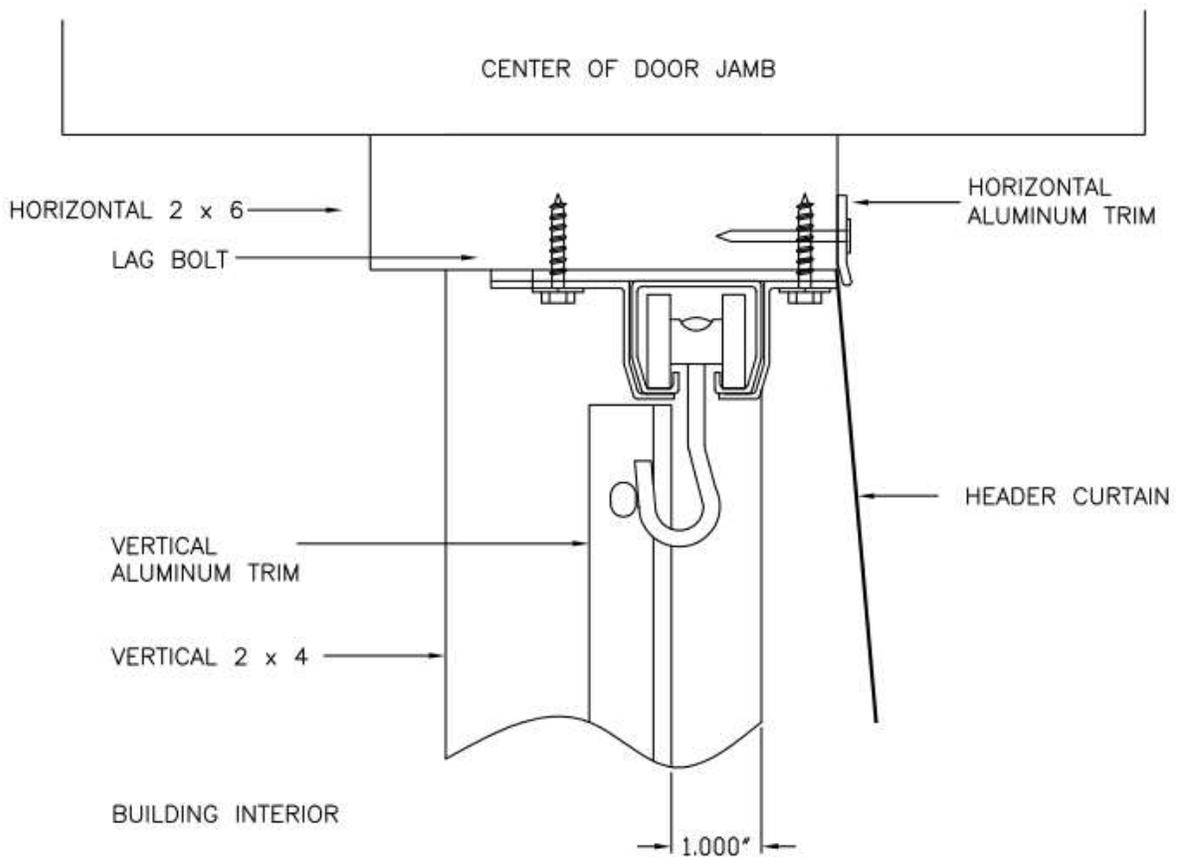

FIGURE 2
4. Lay the track down along the top of the curtain and slide the trolleys into the track in the proper order. Each trolley with a tab attached must line up with a pipe staff. Each trolley with a hook must line up with a grommet along the top of the curtain. Do not fasten the trolleys to the curtain yet. Install the track mounting brackets on areas marked on the track. Mount the track with trolleys installed flush with the outside edge of the horizontal 2 x 6. (See Fig. 2).
11. Start at the top of the curtain, pull the curtain snugly to the interior edge of the vertical 2 x 4, neatly folding the curtain under if necessary to take up any slack. Put 1 nail at the top, now pull the bottom over and down snug and nail. In line with the first two nails, put two more in evenly spaced now cover with the aluminum trim and nail every other hole. (See Fig. 2).
NOTE: The Gateway logo faces the building exterior. (See Fig 2).